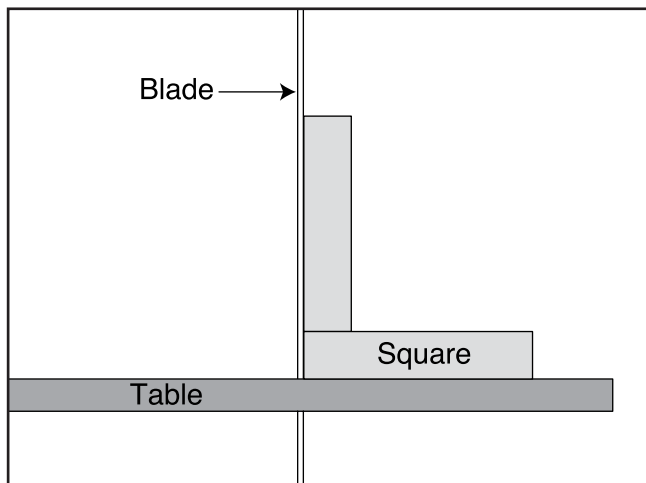

Figure 17. Squaring table to blade.
- Raise the upper blade guide assembly and place a machinist's square on the table next to the side of the blade as shown in **Figure 17**. Adjust the table square with the blade.